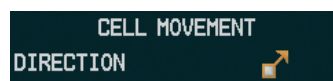

Figure 6-21 Cell Movement Legend
- 1) Select the **MAP** Softkey. This step is not necessary on the Weather Data Link (XM) Page.
- 2) Select the **NEXRAD** Softkey (**CEL MOV** Softkey on the Weather Data Link (XM) Page). For Cell Movement to be displayed on maps other than the Weather Data Link (XM) Page, Cell Movement must be turned on in the Navigation Map Setup Menu (see "Setting Up SiriusXM Weather").
To display the Cell Movement legend on the Weather Data Link (XM) Page, (Figure 6-21), select the **LEGEND** Softkey when Cell Movement is selected for display.